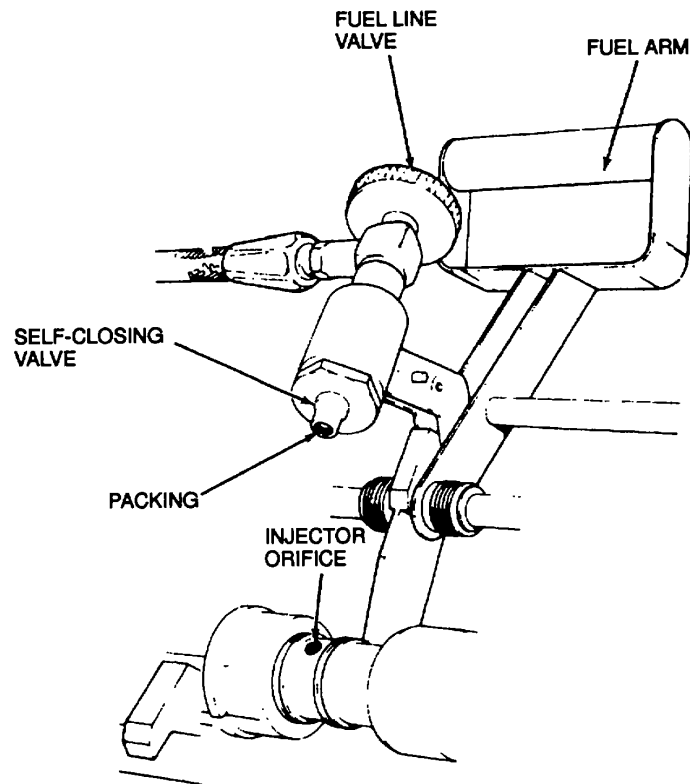

Figure 6-28. Fuel Arm and Supply Valve
- (10) Check that the packing is in place in the self-dosing valve in the fuel arm (Figure 6-28), and open the fuel line valve.
- (11) Lower the fuel arm until the self-dosing valve is positioned over the injector orifice, and lock it in place by pulling the fuel arm to its over-center stop.